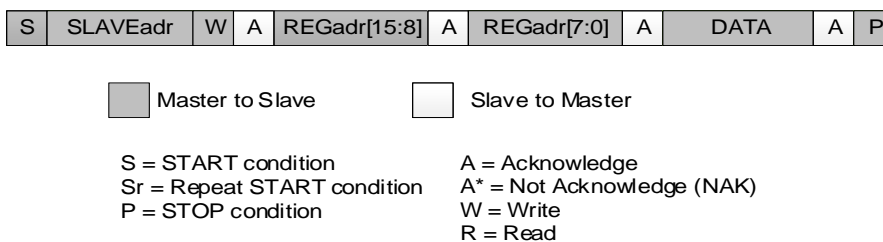
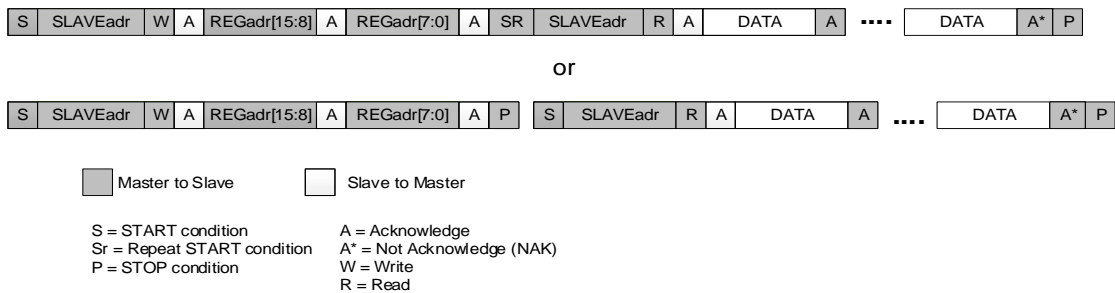

Figure 7. I²C byte write (SDA line)
Figure 10. Examples of I²C page read (SDA line)
The I²C bus is monitored by DA7400 for a valid slave address whenever the interface is enabled. It responds with an acknowledge (A) immediately when it receives its own slave address. An acknowledge is indicated by the receiver pulling the SDA line low during the clock cycle immediately following the byte transmitted, see Figure 7 to Figure 10.
The protocol for a register write from master to slave consists of a start condition, a slave address with read/write bit and the 16-bit register address followed by eight bits of data terminated by a stop condition (DA7400 responds to all bytes with an acknowledge), see Figure 7.